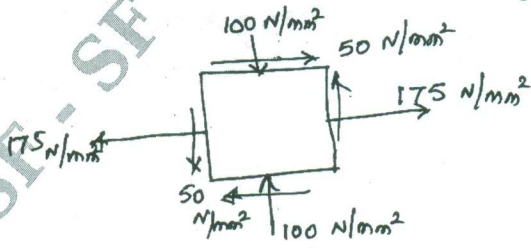

Fig. Q3 (b)
- b. The state of stress at a point in a strained material is as shown in Fig Q3(b).